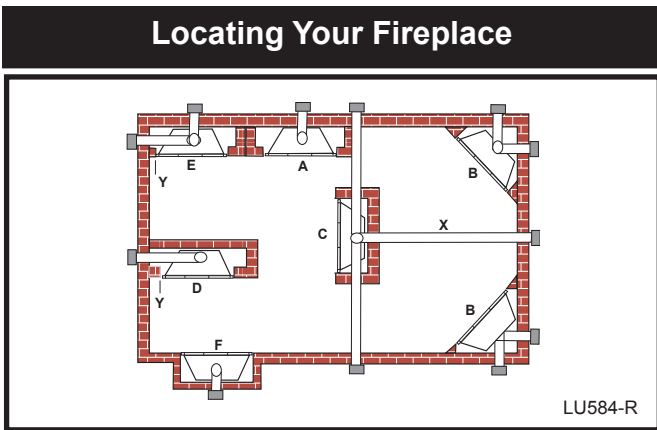

Fig. 3 Locate gas fireplace.
NOTE: (Fig. 3)
** Island (C) and Room Divider (D) installation is possible as long as the horizontal portion of the vent system (X) does not exceed 20' (610 cm). See details in Venting Section.
* When you install your fireplace in (D) Room divider or (E) Flat on wall corner positions (Y), a minimum of 6" (153 mm) clearance must be maintained from the perpendicular wall and the front side edge of the fireplace. Refer to (Y) in Figure 3.